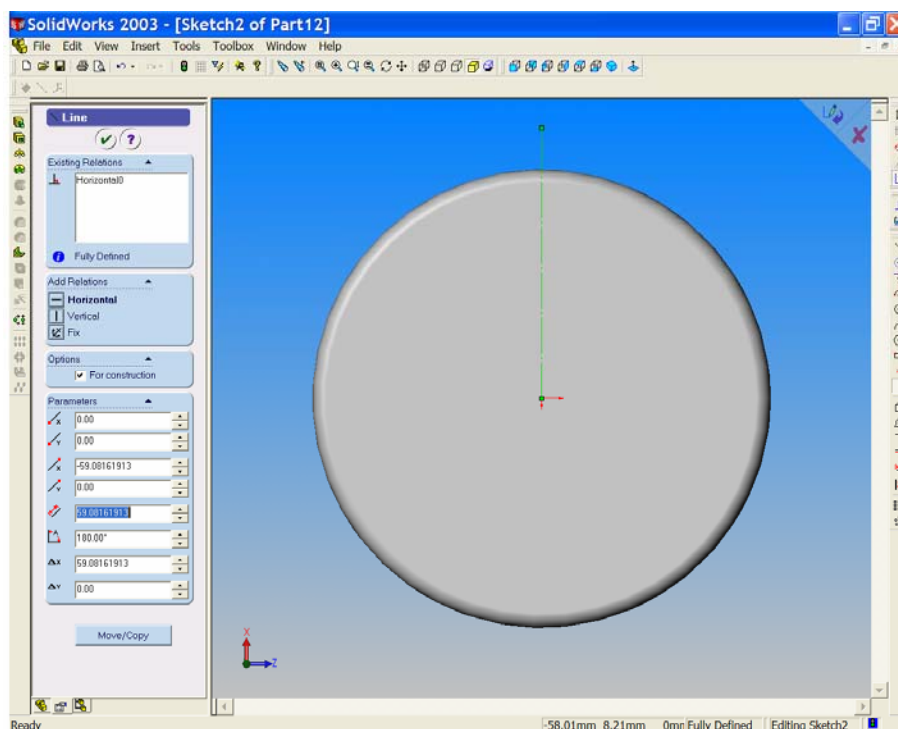

Figure 1
5. Open a sketch on the '**Top Surface**' of the Flange and draw a vertical centre line up from the origin. See Figure 1.